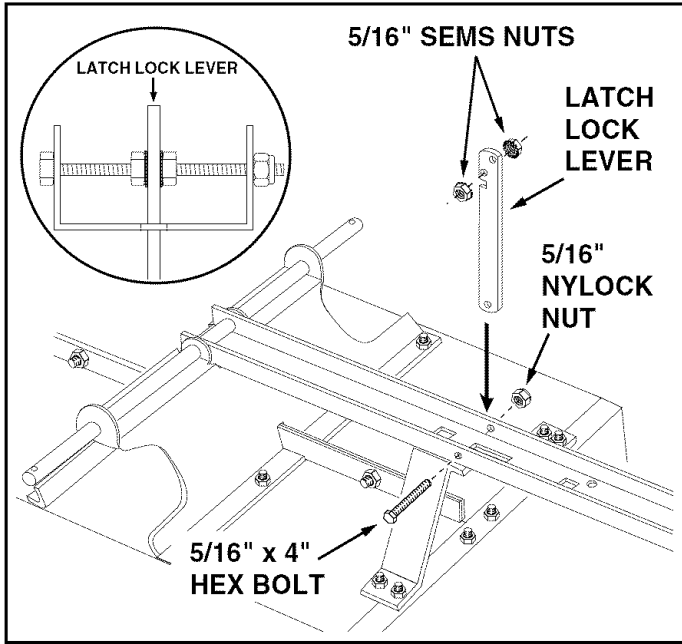

FIGURE 8
17. Hold the latch lock lever as shown in figure 8 and place it down through the slot in the draw bar tongue. Assemble the 5/16" x 4" hex bolt through the tongue, the lever and two 5/16" SEMS nuts (one on each side of the lever). Assemble the 5/16" nylock nut onto the end of the bolt and **tighten** so that the bolt can still rotate freely. **Tighten** the two 5/16" SEMS nuts against the sides of the latch lock lever so that the lever is centered in the slot. See figure 8.